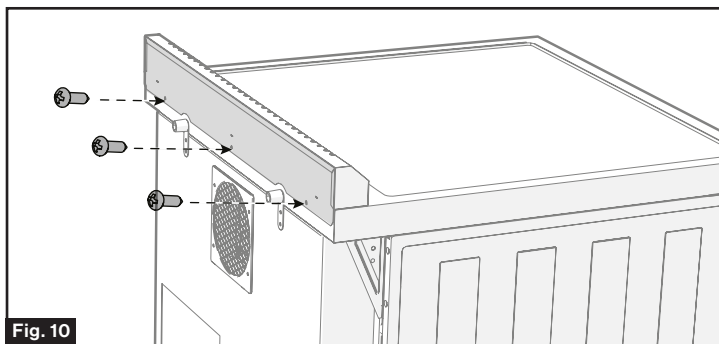

Fig. 10
3. Reinforce the backsplash at the back with extra three screws (M4*12mm, included). (Fig. 10)